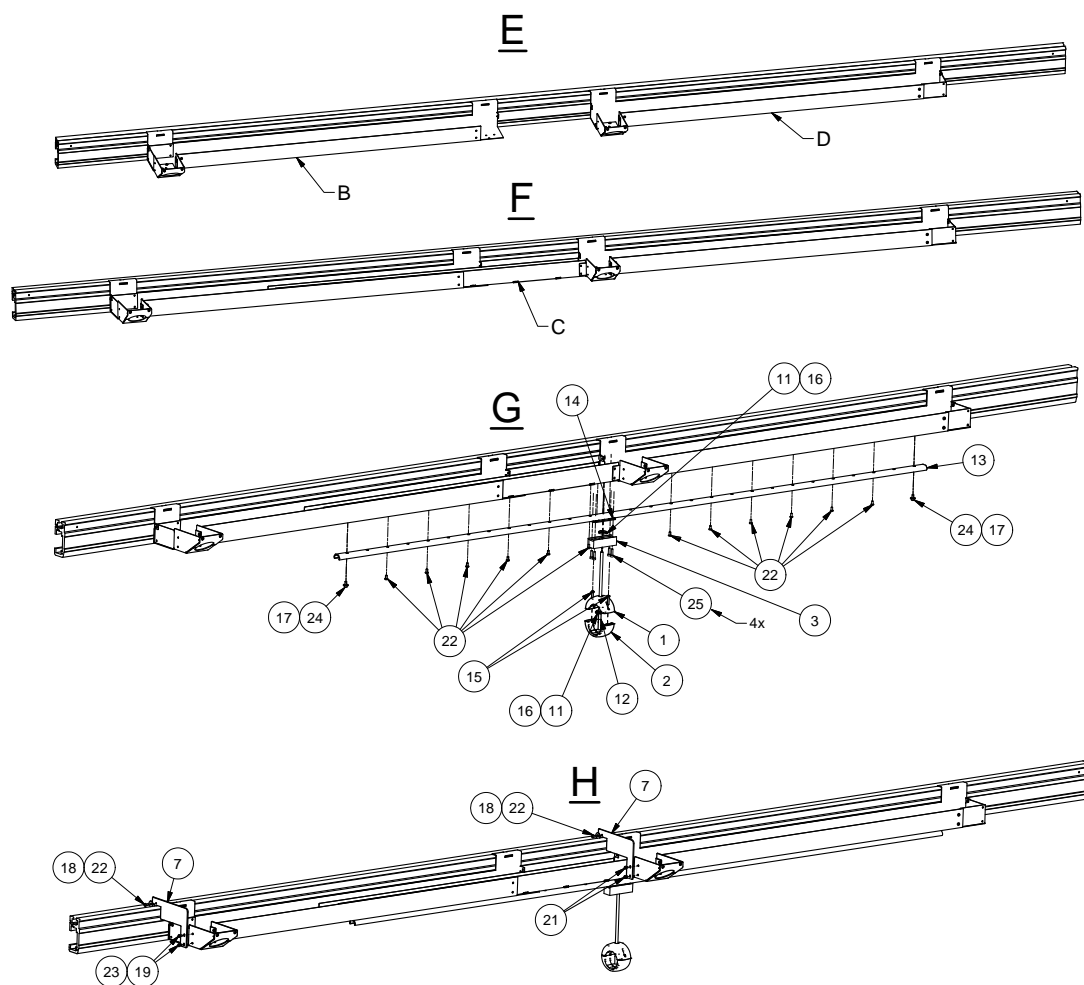

Fig. 5-29 Left hanging
*Item number 17 and 24 are used as end stops for the carriage. See Fig. 5-29 Left hanging.*